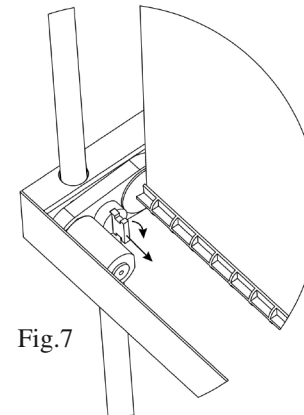

Fig.7
- Pull out knob and turn to disengage the motor from the spindle. This allows the lower spindle to freewheel. (See Fig.7)